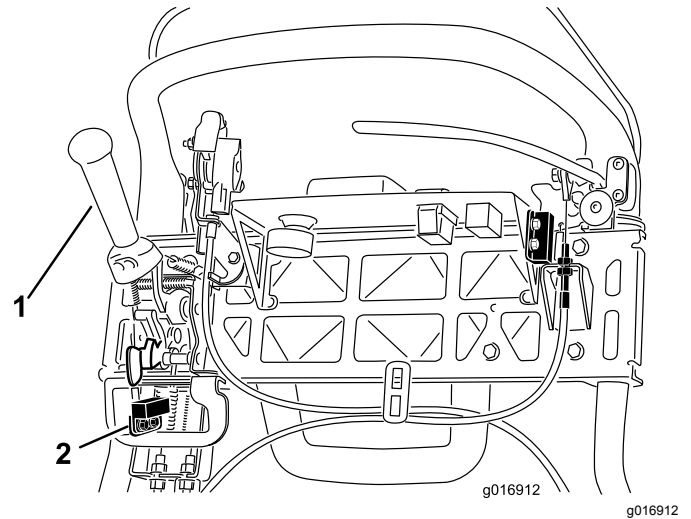

Figure 42
4. Loosen the interlock switch mounting fasteners (Figure 42).
5. Place a 1.6 mm (0.062 inch) thick shim between the traction lever and the interlock switch (Figure 42).